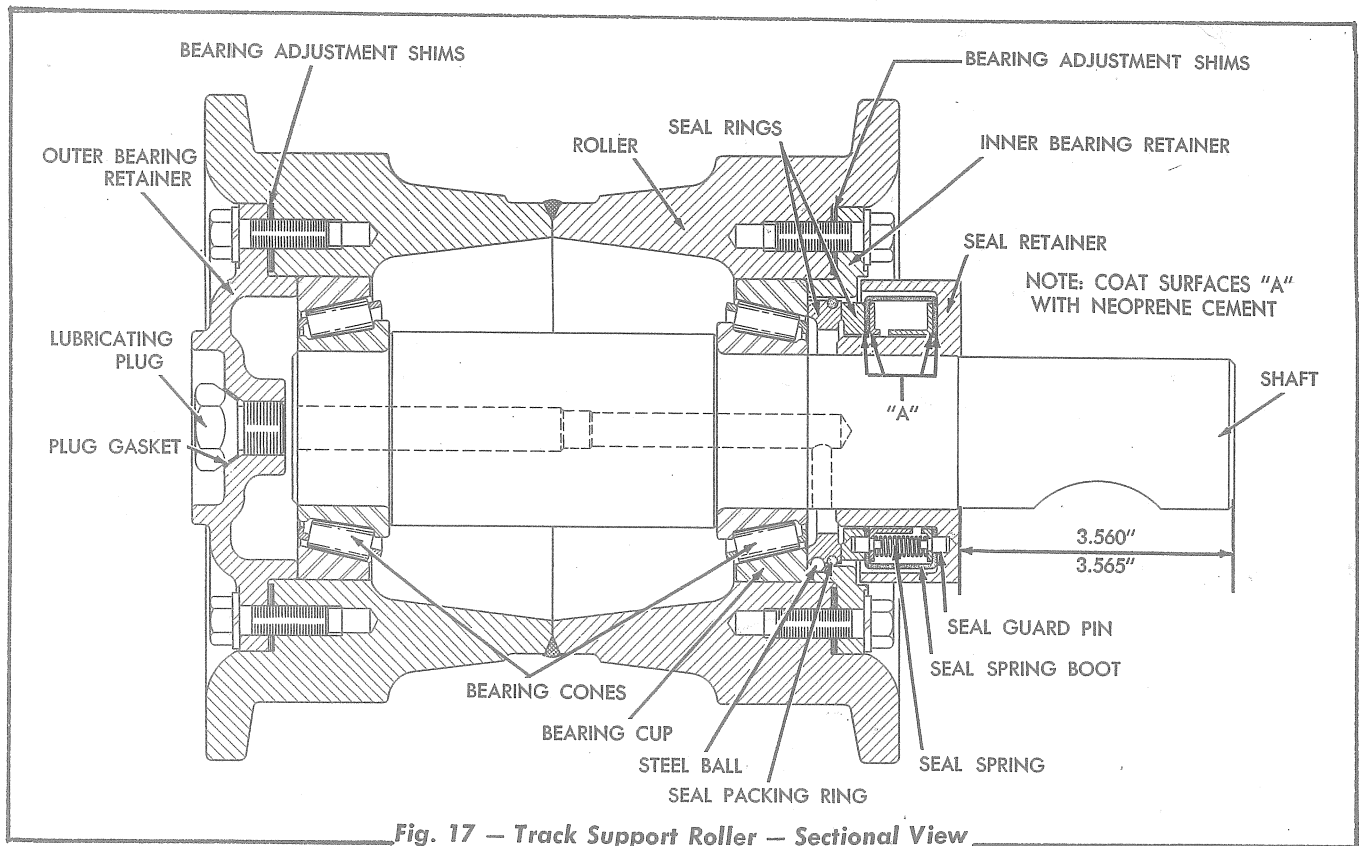

Fig. 17 - Track Support Roller - Sectional View
4. Examine the seal spring boot (Neoprene) of the seal spring assembly and make certain that the seal boot is pliable and the boot is in good condition. Also make certain that the surfaces "A," Fig. 17, of the seal assembly components are firmly cemented together to avoid grease leakage.
2. If a new seal assembly is to be installed, the seal components should be installed at this time so that the "Neoprene" cement, used for cementing the assembly in place will have sufficient time to dry. Refer to Figs. 17 and 19 and proceed as follows:
of the seal retainer is 3.560" to 3.565" in from the end of the shaft (Fig. 17).